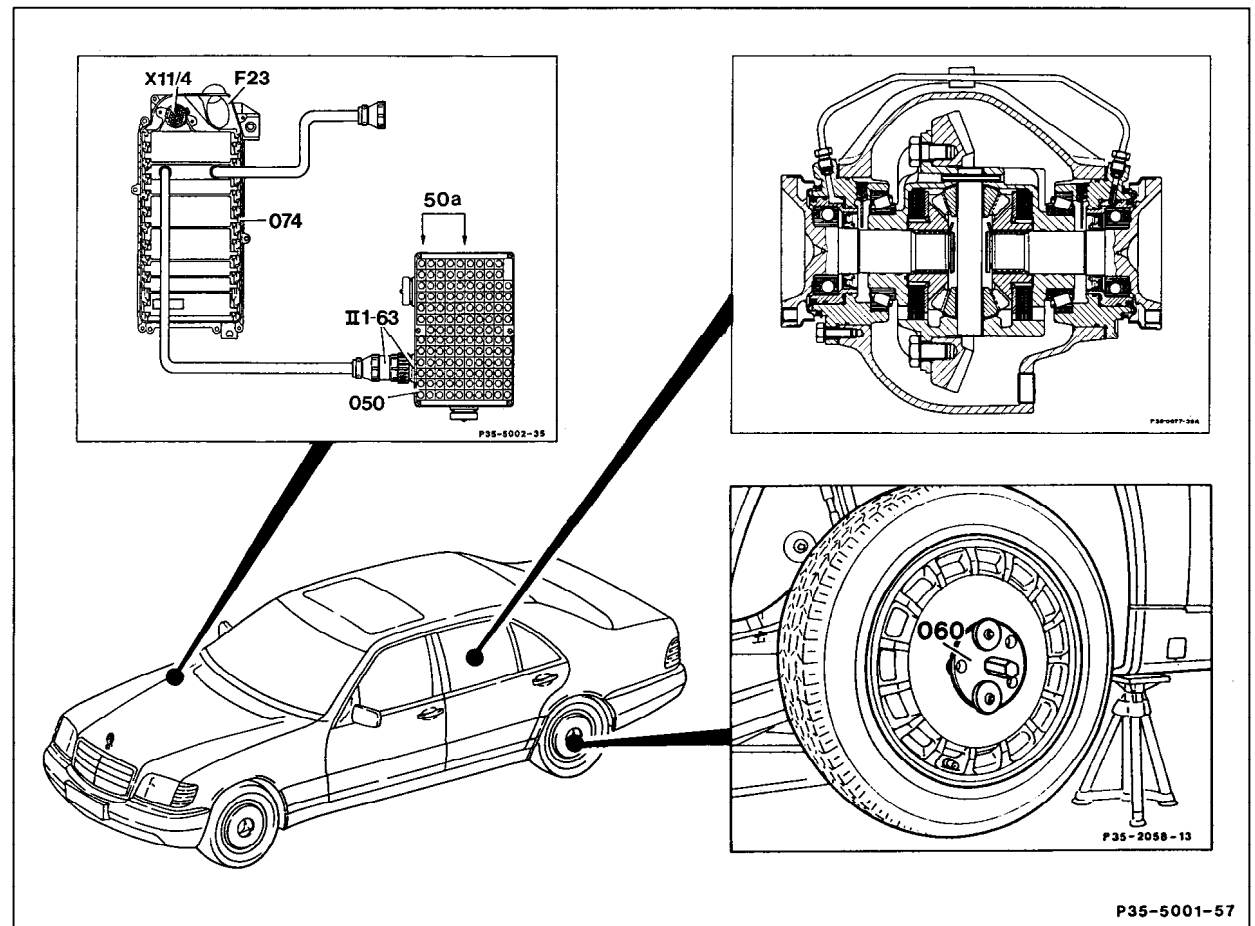

Figure 1
4. Attach frictional torque measurement adaptor plate (Figure 1) using two opposing wheel bolts on raised wheel. Screw studs with shorter threads into the rear axle shaft flange until they bottom out. Slide frictional torque measurement adaptor plate over studs and tighten knurled nuts by hand.
6. Connect socket box (050).